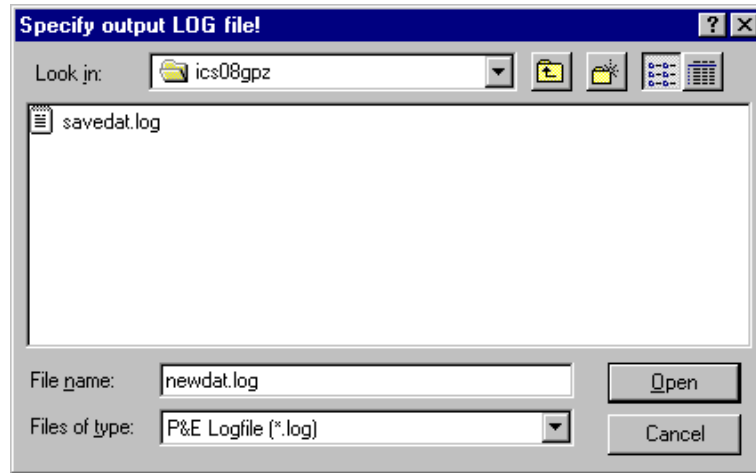

Figure 5-11. Specify Output LOG File! Dialog Box
2. The *Specify output LOG file!* dialog box (see **Figure 5-11**) opens.